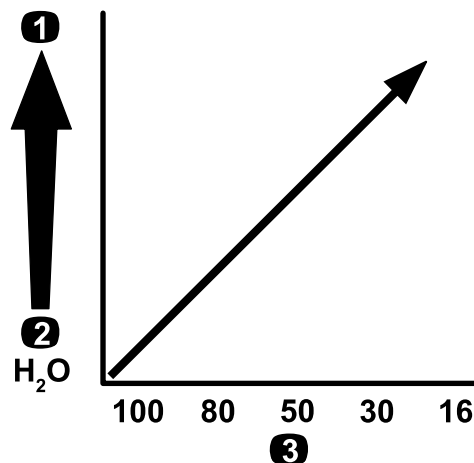

Figure 14
**Important:** When you spray with higher viscosity (thicker) chemical products or solutions with wettable powders, you may need to use a coarser screen mesh for the optional pressure-filter; refer to Figure 14.